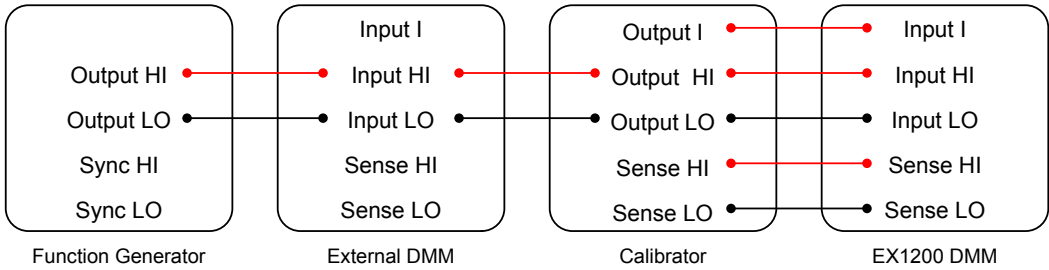

FIGURE 9-4: EX1200 CONNECTIVITY TO REFERENCE STANDARDS
- 9) Connect the function generator, external DMM, and calibrator to the DMM as shown in Figure 9-4 using the EX1200 DMM calibration/verification cable (VTI P/N: 52-0807-000).